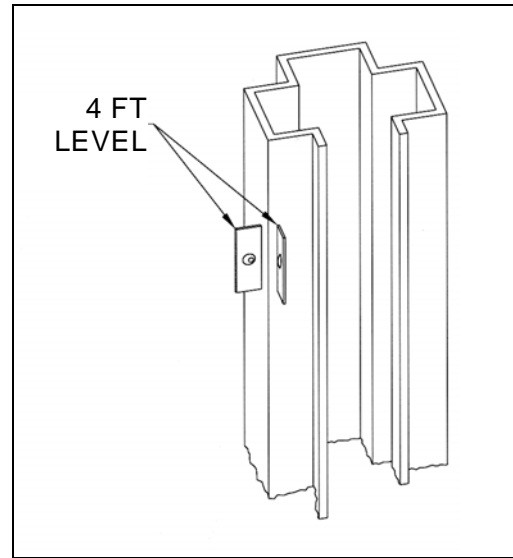

Figure 8. Post leveling
6. Use a 4' level, to level the posts. Refer to Figure 8.